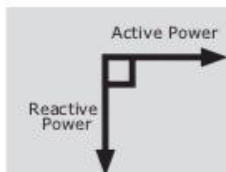
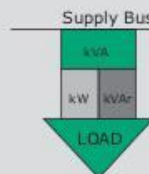

Figure 1 : Phase relationship between Active & Reactive power
Figure 2 : Network without capacitor
The reactive power (inductive) as always 90 deg lagging with respect to active power as shown in figure 1, figure 2 & 3 show the flow of kW, kVAr and kVA in a network.
- Higher kVA demand from supply system as given in figure 2